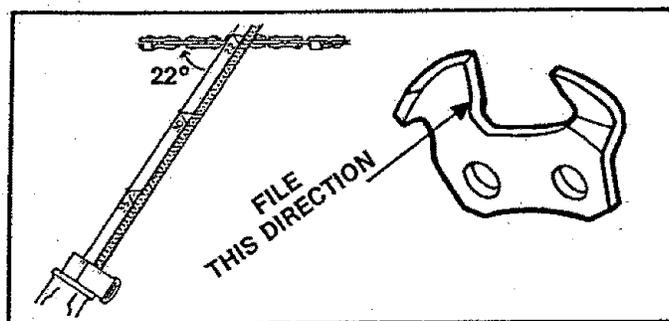

Figure 26
4. Hold the file holder level with the 22° guide mark parallel to guide bar. Figure 26.
5. File from inside toward outside of cutter, straight across, in one direction only. Use 2 or 3 strokes per side plate edge. Figure 26.